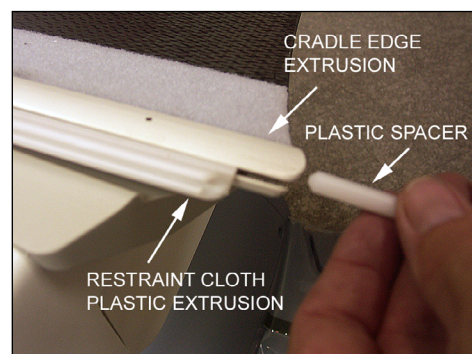

Fig. 48
6. Remove the existing Plastic Set Screws constraining the GE CT Cradle Restraint Cloth Plastic Extrusion at the head end of the cradle (Fig. 48).
7. Slide the Restraint Cloth Plastic Extrusion (2) towards the CT and using a hacksaw or equivalent tool, cut off 1.5" (38 mm) from the length of the extrusion.
8. Slide the Restraint Cloth Plastic Extrusion (2) into the CT cradle, and secure by reinstalling the Plastic Set Screws (2) into the GE CT cradle.